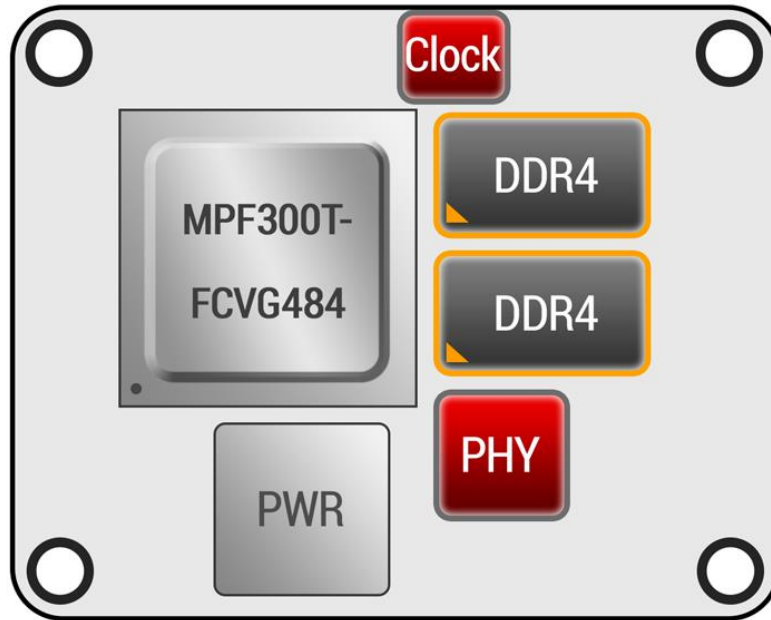

Figure 2 - Placement diagram of component side
- Figure 2 - Placement diagram of component side 9